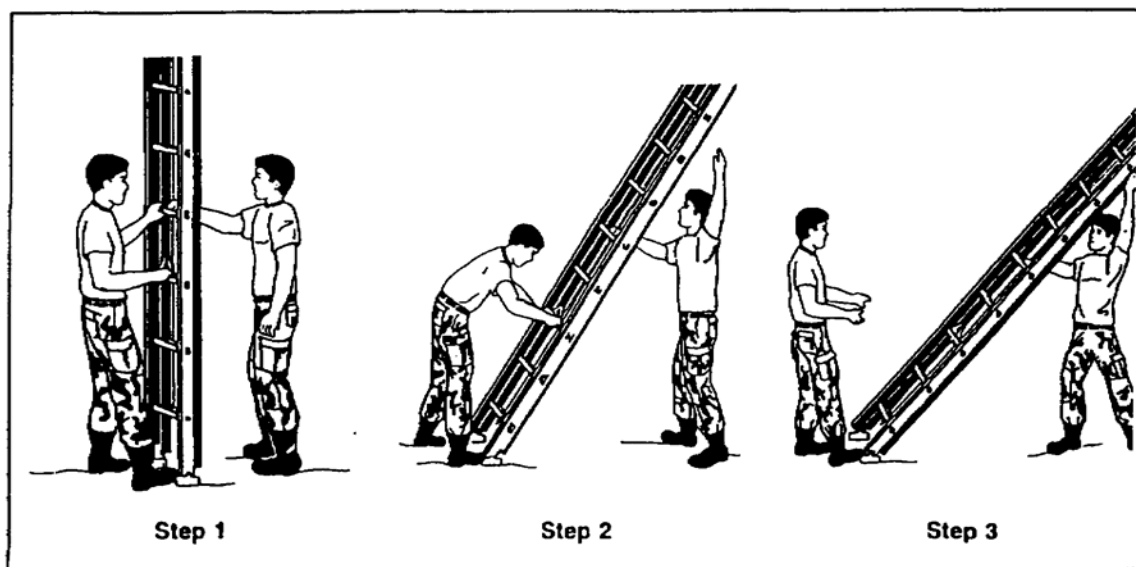

Figure 4-6. Lowering a long extension ladder
(3) Lowering a long extension ladder. Lowering a long extension ladder requires a helper. To do this, follow the steps as shown in Figure 4-6. In step 1, a helper (shown on the left side of the ladder) braces the ladder foot. As the helper balances the ladder, you need to move out to catch the ladder at its midpoint. In step 2, the helper slowly lowers the ladder as you move toward the top end of the ladder. In step 3, catch the falling ladder and stabilize it by moving quickly toward the top rungs of the ladder.